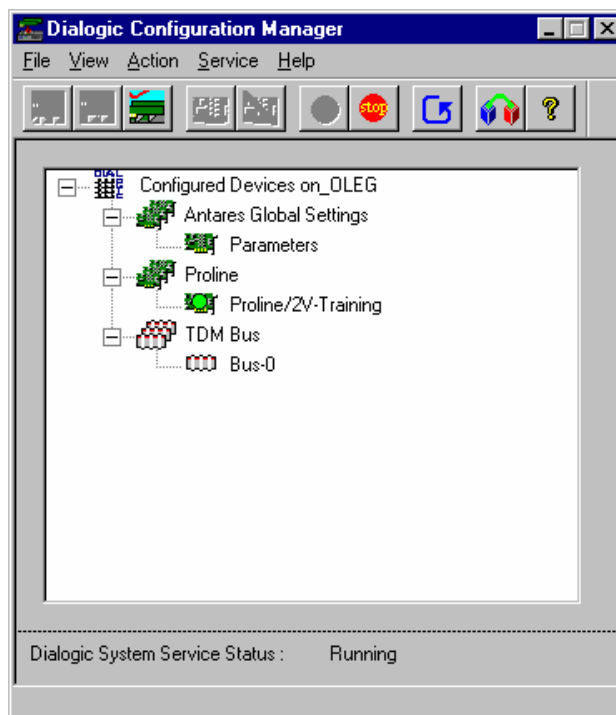

Figure B.18. Activated Telephony Card
- To start the service, click the **Start Service** (green circle) button on the **Diagnostic Configuration Manager** toolbar. This will start the Proline/2V telephony card, as shown in **Figure B.18**. The Status box will indicate whether the telephony card started successfully. Now you are ready to start using the Phone Agent.